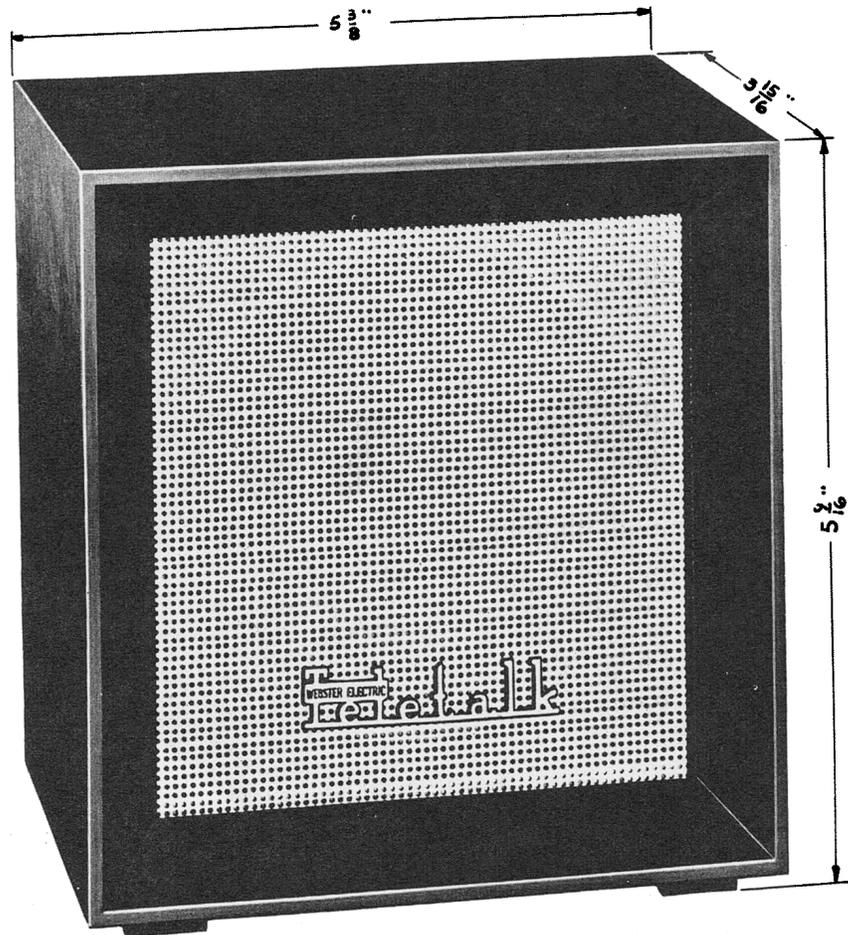

Fig. 3 - 5G45 Speaker Station
2.14 The speaker station 5G45 shown in Figure 3 is a 5-inch speaker mounted in a plastic cabinet. Screw terminals for connections are on